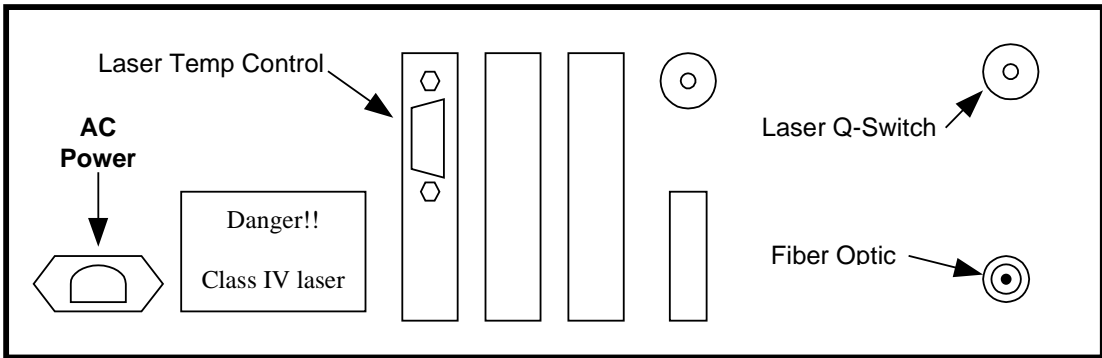

Figure 2. Back side of Laser Diode Supply
1. Examine figure 2 while looking at the back side of the Laser Diode Supply, identifying each connection.
2. Figure 2. Back side of Laser Diode Supply